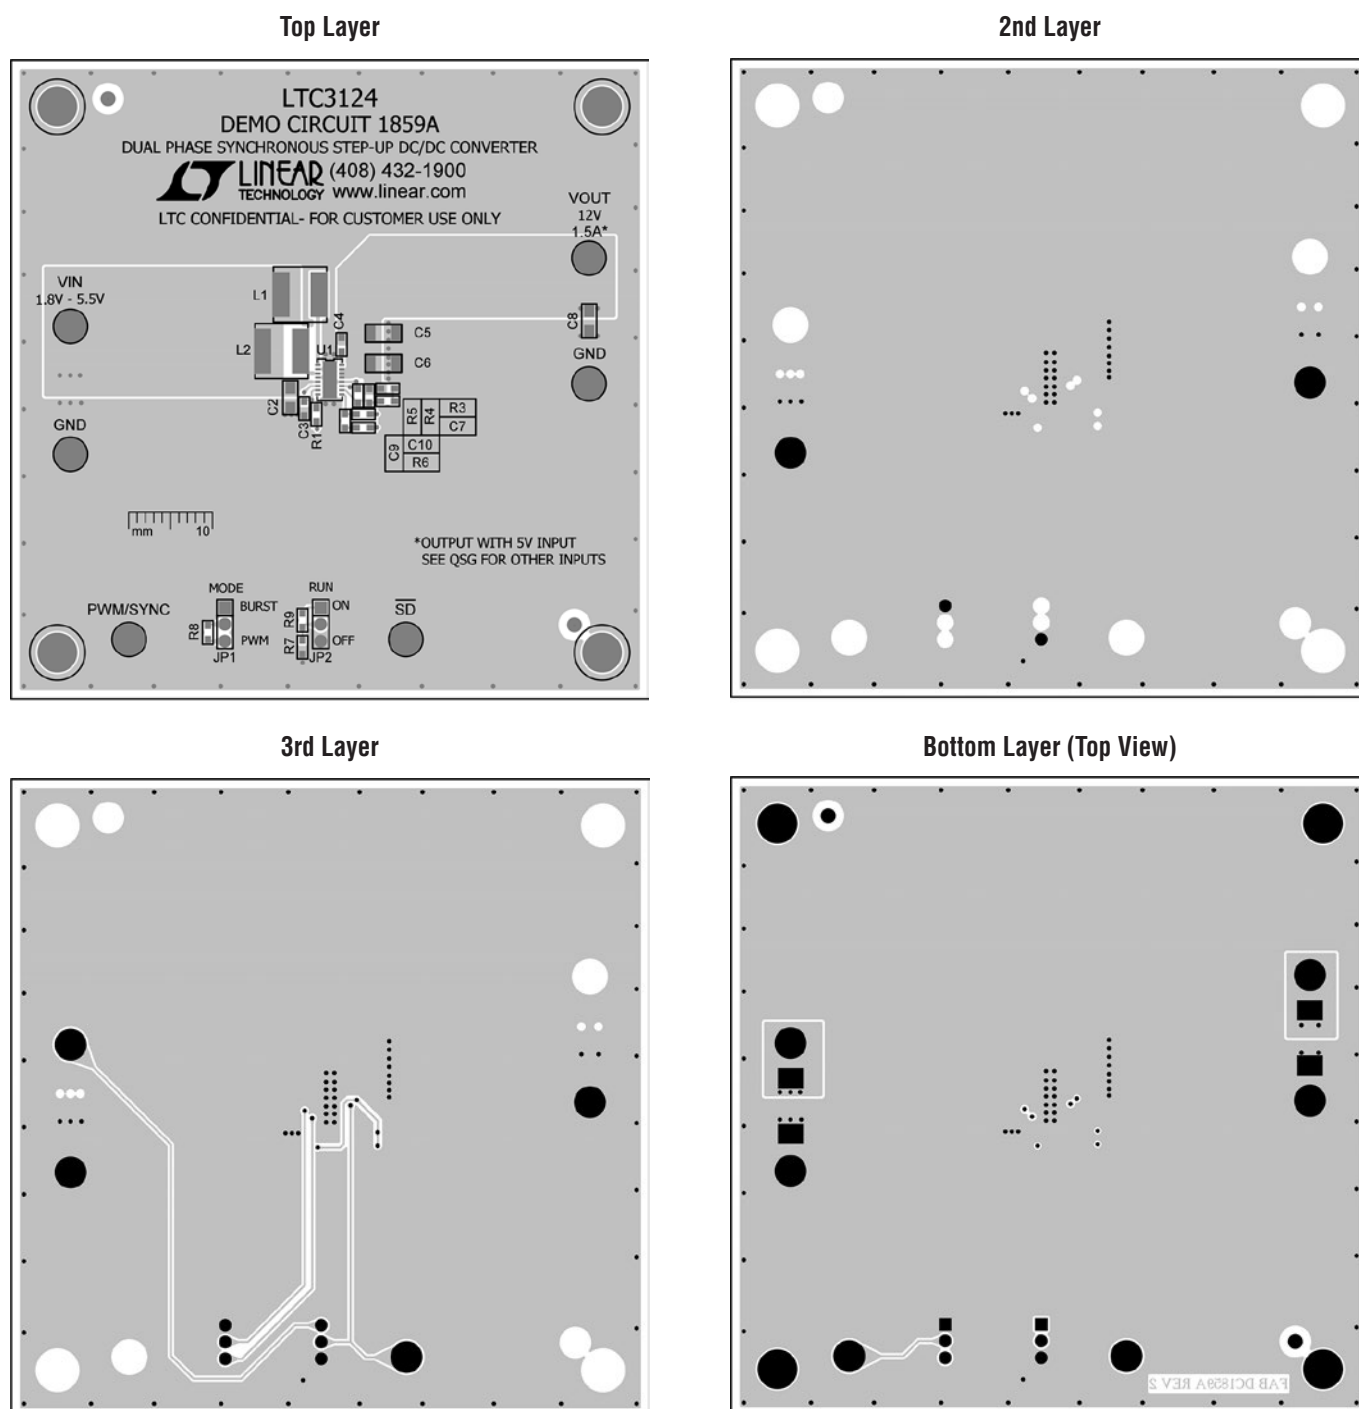

Figure 6. Example PCB Layout
The LTC3124 switches currents as high as 4.5A at high frequencies. Special attention should be paid to the PCB layout to ensure a stable, noise-free and efficient application circuit. Figure 6 presents the LTC3124's 4-layer PCB demo board layout (the schematic of which may be obtained from the Quick Start Guide) to outline some of the primary considerations. A few key guidelines are outlined below:
1. A 4-layer board is highly recommended for the LTC3124 to ensure stable performance over the full operating voltage and current range. A dedicated/solid ground plane should be placed directly under the V_{IN} , V_{OUTA} , V_{OUTB} , SWA, and SWB traces to provide a mirror plane to minimize noise loops from high di/dt and dV/dt edges (see Figure 6, 2nd layer).
2. All circulating high current paths should be kept as short as possible. Capacitor ground connections should via down to the ground plane in the shortest route possible. The bypass capacitors on V_{IN} should be placed as close to the IC as possible and should have the shortest possible paths to ground (see Figure 6, top layer).
- Crossover connections should be made on inner copper layers if available. If it is necessary to place these on the ground plane, make the trace on the ground plane as short as possible to minimize the disruption to the ground plane (see Figure 6, 3rd layer).